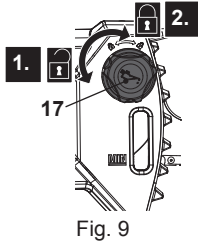

Fig. 9
1. Place the product on a stable, level surface with the oil tank cap (17) facing upward. We recommend laying a non-flammable sheet under the product.
- Unscrew it anticlockwise and remove the oil tank cap (17) (Fig. 9, step 1).
- Check the oil level window (18) prior to start-up and regularly during operation. Refill oil when the oil level is close to the bottom of the oil level window (18).
- Wipe up spilled lubricant with a soft cloth and refit the oil tank cap (17) (Fig. 9, step 2).